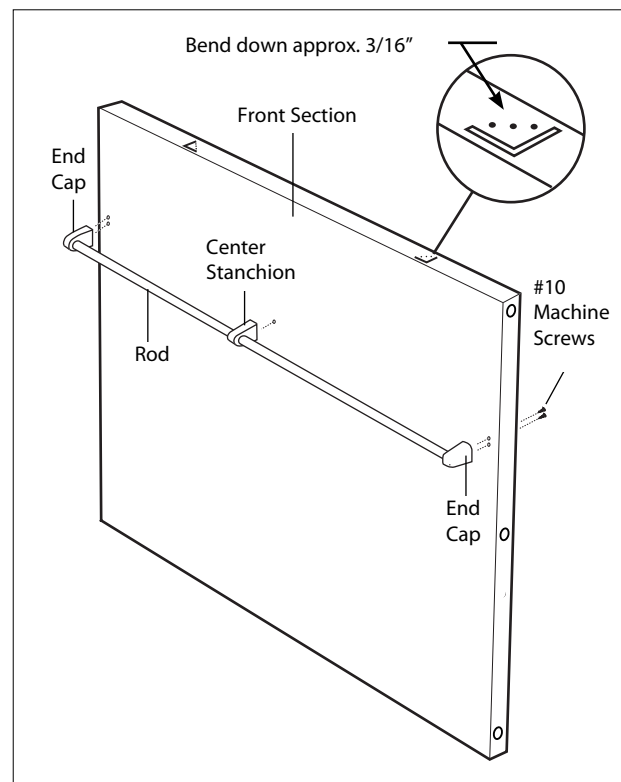

Fig.10
3. Attach rod, end caps and center stanchion to Front Section of backguard with #10 machine screws supplied (fig. 10).